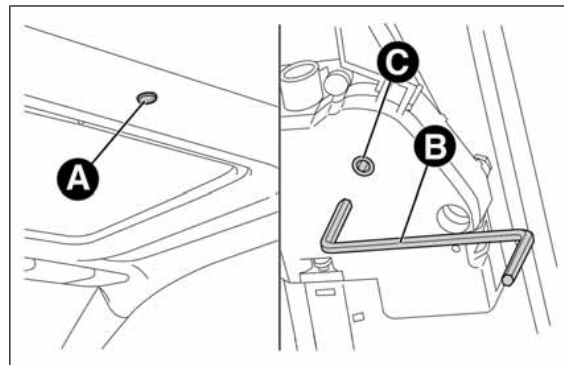

fig. 56
- remove the protective cap A fig. 56 located on the internal lining, between the two sun blinds;